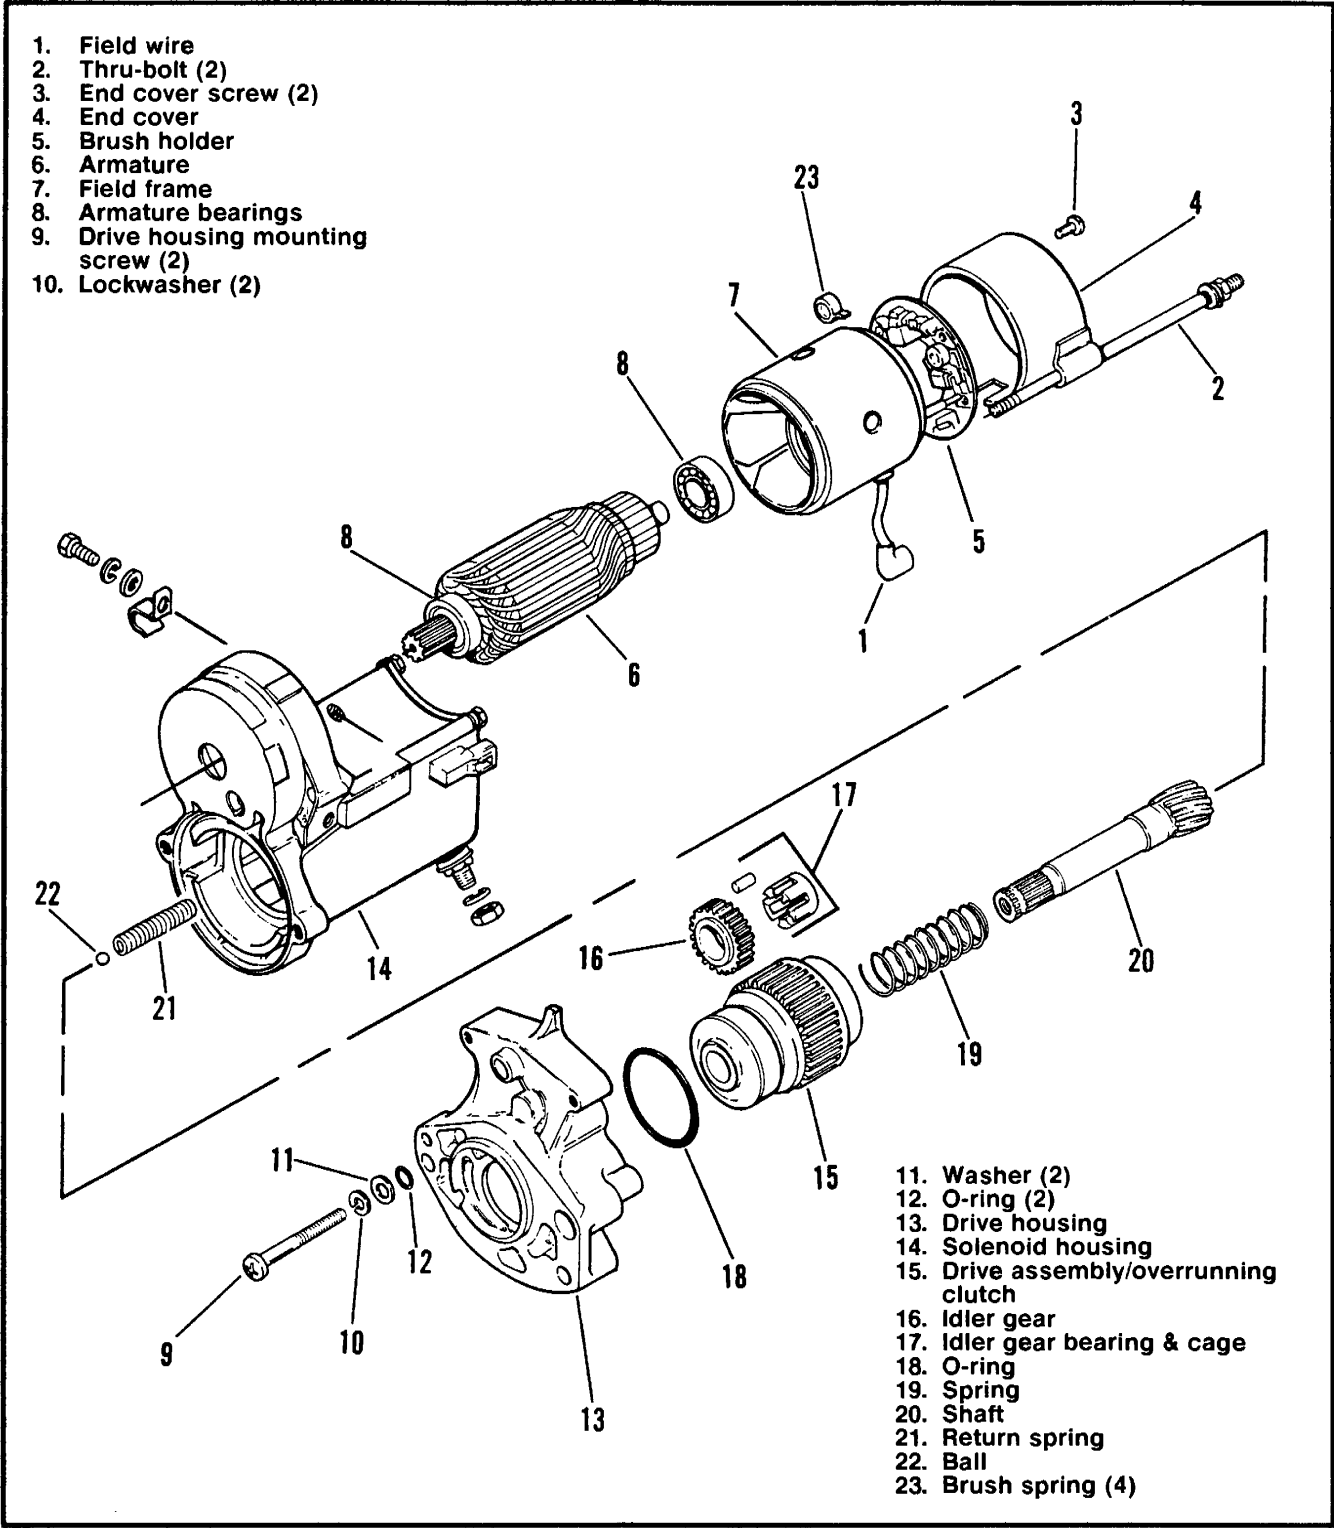

Figure 5-31. Starter
1. See Figures 5-31, 5-32. Disconnect field wire (1).
2. See Figures 5-31,5-33. Remove thru-bolts (2).
3. See Figures 5-31, 5-33. Remove the two cover screws and cover.
6. See Figure 5-31. Remove armature (6) and field frame (7).
- Check armature bearings (8, Figure 5-31) and replace if necessary.
- See Figures 5-31 and 5-42. Remove the two drive housing mounting screws (9) lockwashers (10) and washers (11) and O-rings (12). Remove drive housing (13) from solenoid housing (14).
See Figure 5-31. Spring (21) and ball (22) are loose in shaft gear (20) end.
- See Figure 5-31. Remove drive (15), idler gear (16) and idler gear bearing (17) from drive housing (13). O-ring (18) is in groove in drive housing.
- See Figures 5-31 5-43. Remove spring (19) and shaft (20).
1. See Figure 5-31. Clean, inspect and lubricate drive assembly components. Lubricate parts with high temperature grease such as LUBRIPLATE 110.
2. When installing drive assembly components, open end of idler bearing cage (17) faces toward solenoid.
3. When installing drive housing (13) to solenoid housing (14) use new O-rings (12). Be sure to install return spring (21) and ball (22).
4. Lubricate armature bearings (8) with high temperature grease such as LUBRIPLATE 110. Install armature (6) and frame (7) to solenoid housing (14).
5. Replace brush springs (23), if necessary.
6. Install brushes and brush holder (5).
7. Install end cover (4) with screws (3).
8. Install bolts (2).
9. Connect field wire (1) to terminal and tighten terminal nut to 65-80 in-lbs torque.